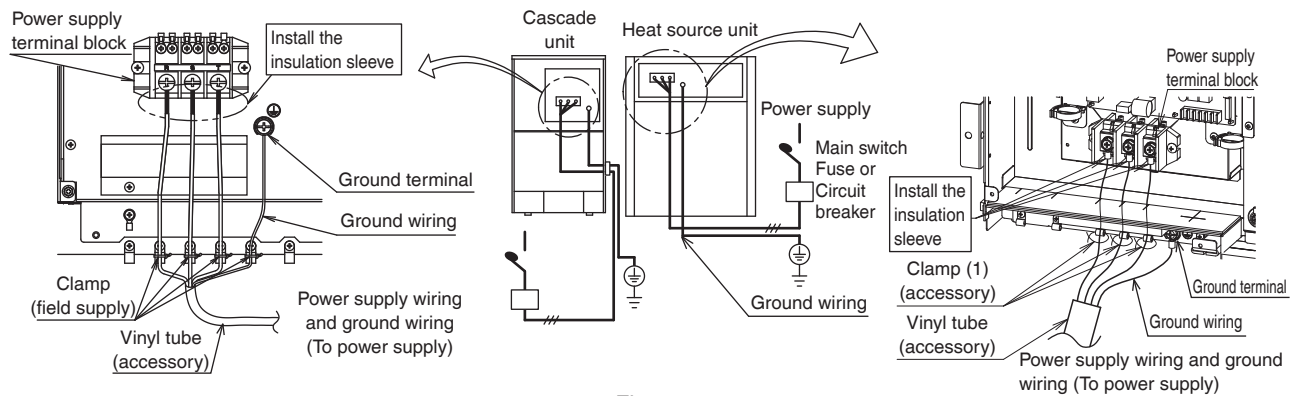

Fig. 24
- Install an insulation sleeve to the power supply wiring and connect it to the power supply terminal block. After connection, secure it using the clamps as shown in Fig. 24. Use the supplied clamps for the heat source unit and separately prepare clamps for the cascade unit.
- For the ground wiring for the heat source unit, use the attached clamp (1) to bind it to the power supply wiring following the procedure in Fig. 24 so that no external force is applied to the terminal.